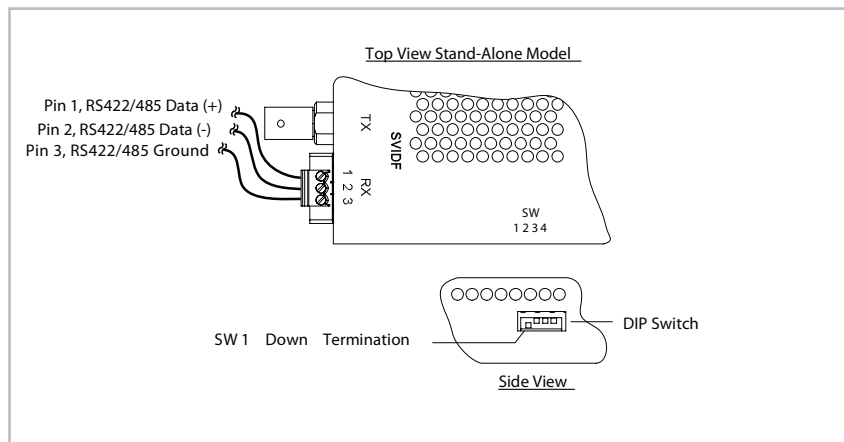

Figure 11: RS422/485 Receiver Data TB and DIP Switch Settings
1. Loosen the 3 screws on the TB, shown in Figure 11.
3. Set DIP switch SW "1" DOWN (*termination*) when using one receiver, as shown in Figure 11.